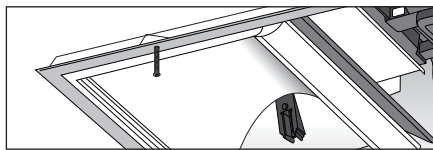
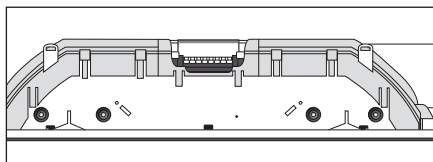

Fig. 17
Fig. 18
1. Clip transition to the body, ensuring that the ducting taped to the transition is not dislodged. Position the Tastic body into the aperture, so that the plastic end supports are resting on the plaster. As the Tastic is raised into ceiling, ensure electrical cables do not rest over Tastic. Place the four toggle bolts through the recesses cut into the plaster, (Fig.17) and tighten the bolts. This will raise the Tastic body flush to the ceiling (Fig. 18).